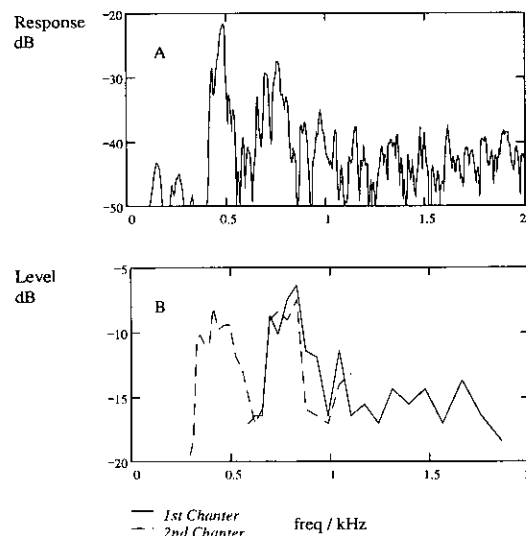

Fig. 5. Measured frequency responses of 1882 hurdy-gurdy by Pimpard: (A) derived from impulse response and (B) loudness curve.
In Figure 5, (A) shows a frequency response derived from an impulse response measurement and (B) shows the loudness curves for the two chanterelles plotted against frequency. As expected the response curve is considerably more complex than the loudness curve, but both show major peaks of over half an octave in width and centred on about 500 Hz and 750 Hz. Much of the complexity in the response curve is probably due to individual string resonances. Attempts were made to damp the strings, but this is very difficult, and measurements must be made with the strings in place to give the correct loading of the bridge and sound board.